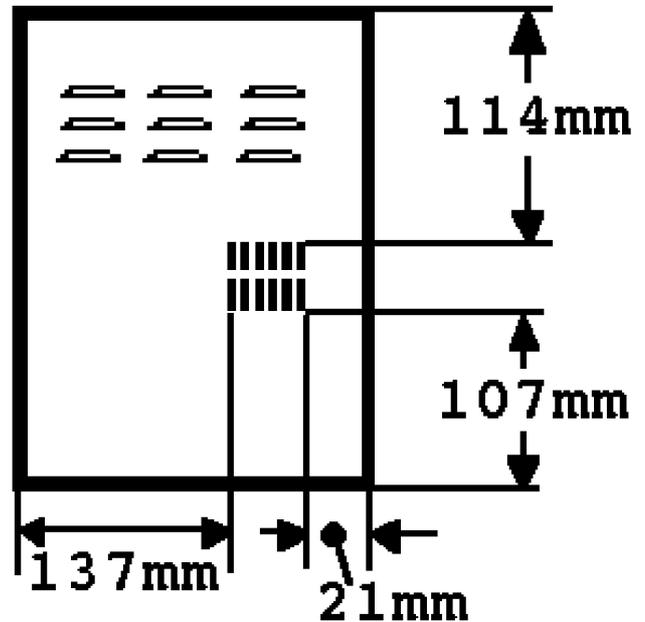

Figure 4
*Note: The distances are from the edge of the vertical exit slots in the terminal **not from the edges of the rectangular box** (See figure 4).*
Minimum distances for terminal positions shown in the table are from slot openings. (See Figure 4)